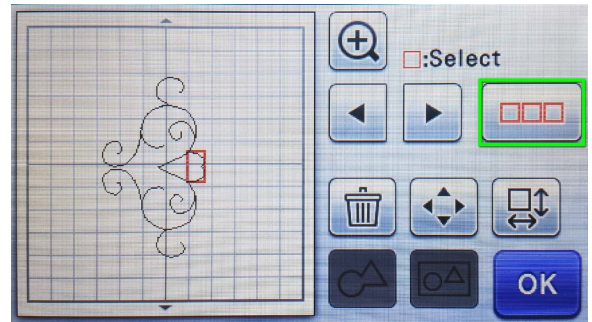
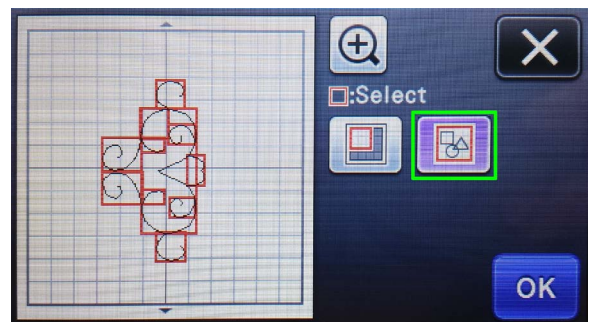

Figure 9
Figure 10
M. When all of the extraneous elements have been deleted, select all of the remaining ones. Tap on the **Multiple Pattern Selection** button (Fig. 9), then tap on the **Select All** button (Fig. 10). Tap **OK**.